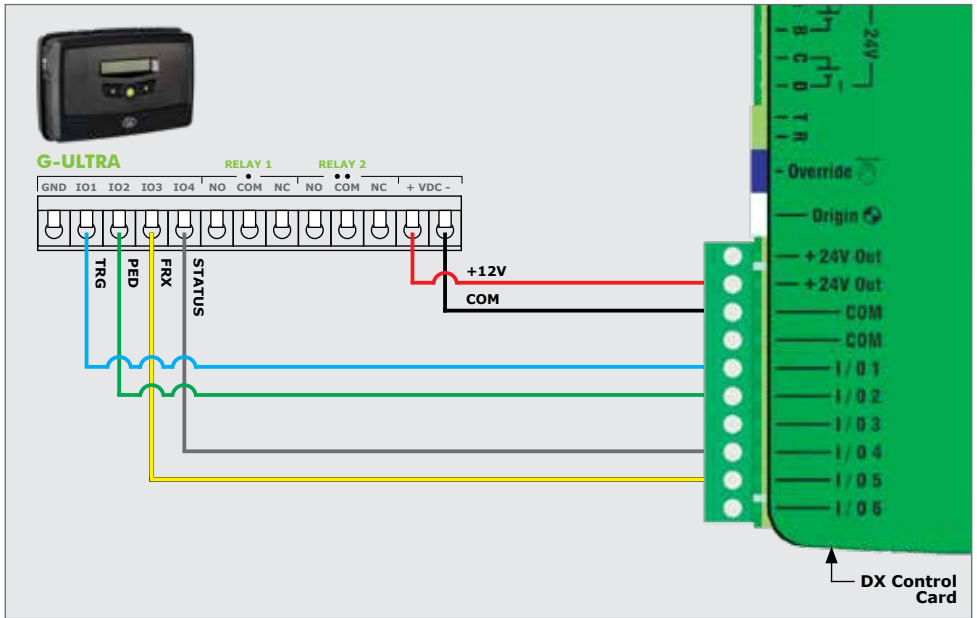

FIGURE 89
1. Scan the QR Code in Figure 89.